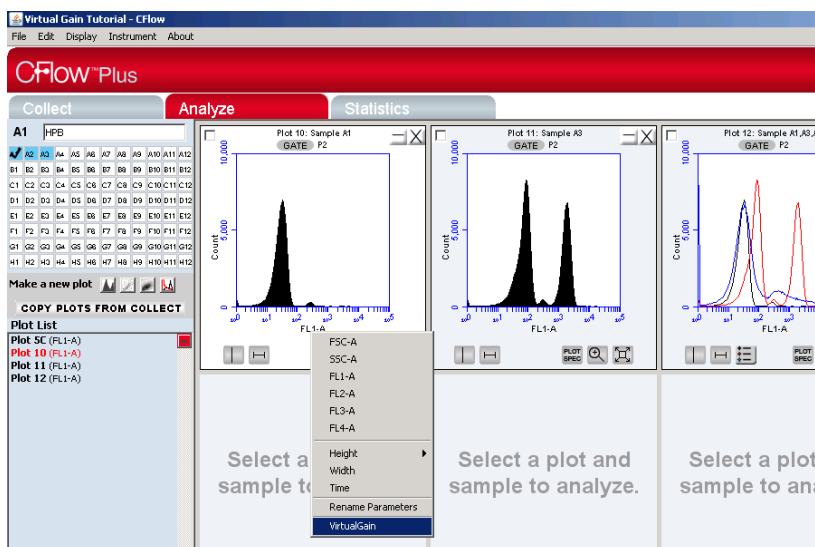

Figure 6-3 Click on the histogram parameter label to reveal the Parameter list.
5. Click on the histogram parameter label to reveal the **Parameter List** (Figure 6-3).